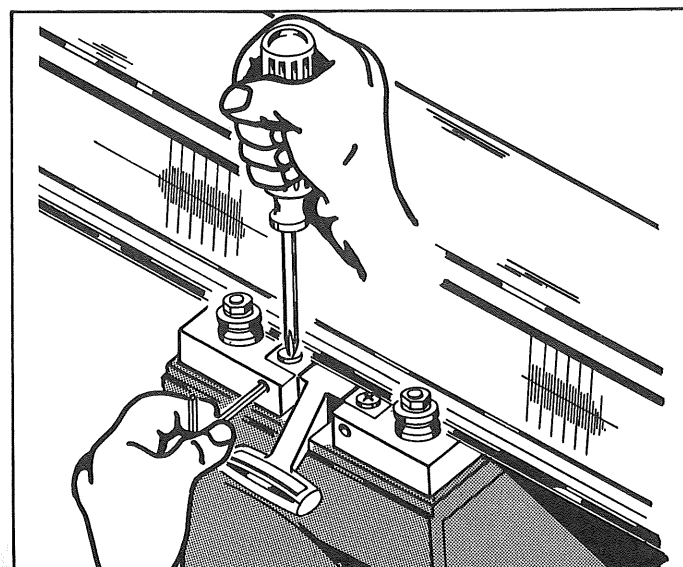

FIG. 35
5. Loosen adjusting screws at top of carriage, and locking screws at side of carriage. Fig. 35.